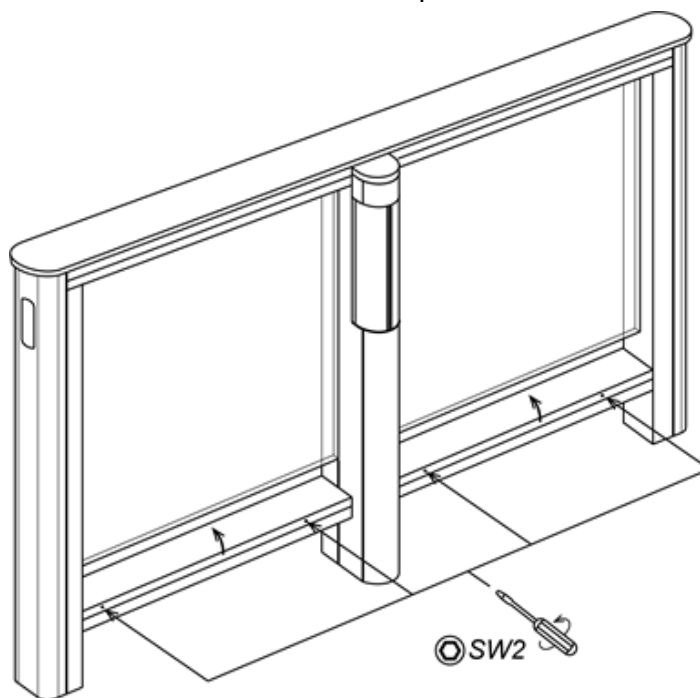

Figure 27. Bottom duct cover disassembly
7. Remove the front panels (8) from both posts.
8. Using S17 open-end and Allen wrenches, unscrew and remove 6 M10×30 screws with washers, plastic bushing and screws fixing the filling glass (two in each bracket of the side posts and two in the central post) (see Fig. 27, 28).